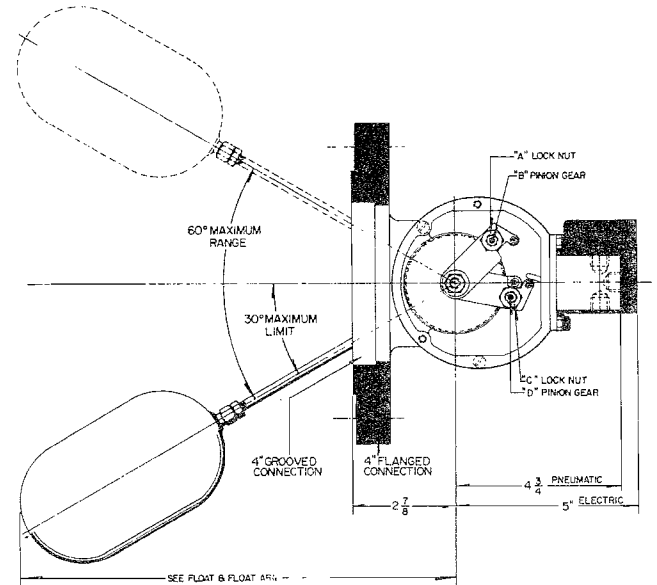

Figure 3
The model 1800 Control is provided with two (2) adjustments permitting the setting of both the high and low level set points. To change the set point span, the following procedure should be used, (reference figure 3).